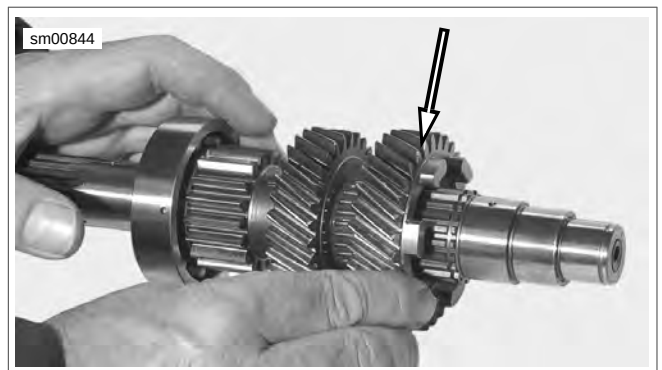

Figure 6-143. 4th Gear
9. See Figure 6-143. Remove 4th gear.